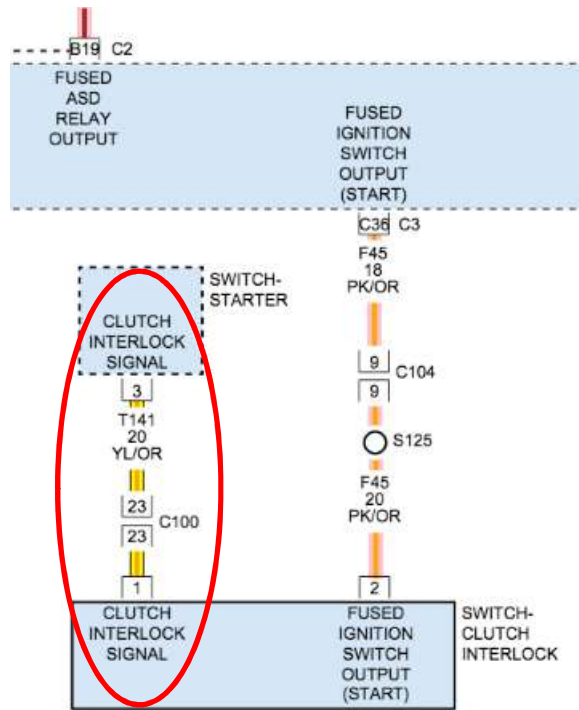

Figure 3 (Clutch pedal position sensor)
7. Attach supplied wiretap to the **YELLOW/ORANGE** wire on the clutch sensor (**Figure 3**).